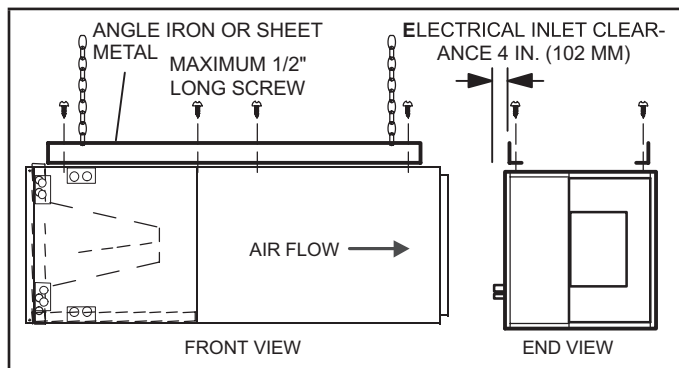

FIGURE 7. Suspending Horizontal Unit
- 5 - If the unit is suspended, the entire length of the cabinet must be supported. If you use a chain or strap, use a piece of angle iron or sheet metal attached to the unit (either above or below) to support the length of the cabinet. Use securing screws no longer than 1/2 inch to avoid damaging the coil or filter. See figure 7. Use sheet metal screws to connect the return and supply air plenums as required.
- 12 - If suspending the unit, it must be supported along the entire length of the cabinet. If using chain or strap, use a piece of angle iron or sheet metal attached to the unit (either above or below) so that the full length of the cabinet is supported. Use securing screws no longer than 1/2" to avoid damage to coil or filter, as illustrated in figure 7. Connect return and supply air plenums as required using sheet metal screws.